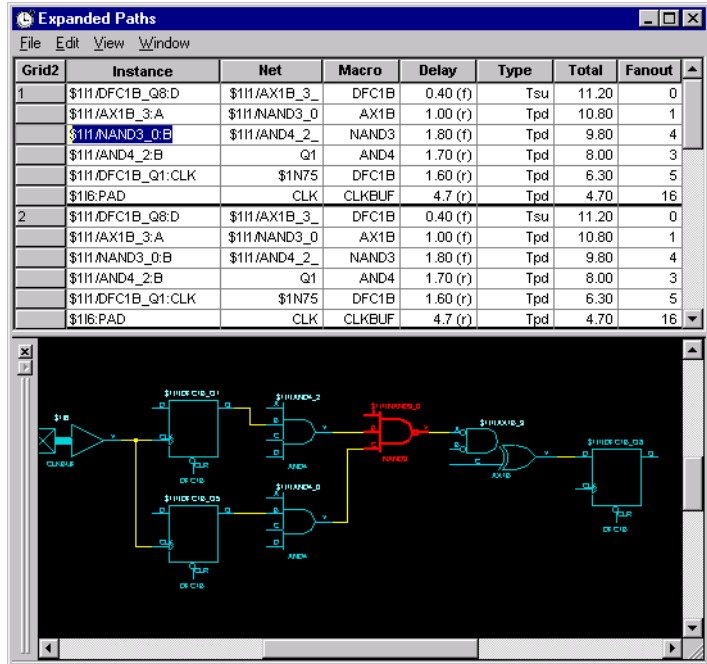

Figure 2-12. Timer Expanded Paths Window
- 5. Expand the path by double-clicking on the path, or in the Edit menu, click *Expand Path*.** The Expanded Paths window (Figure 2-12) opens and displays parallel paths in the Expanded Paths Grid and a
graphical representation of the paths in the Chart Window, as shown in Figure 2-12 on page 51.